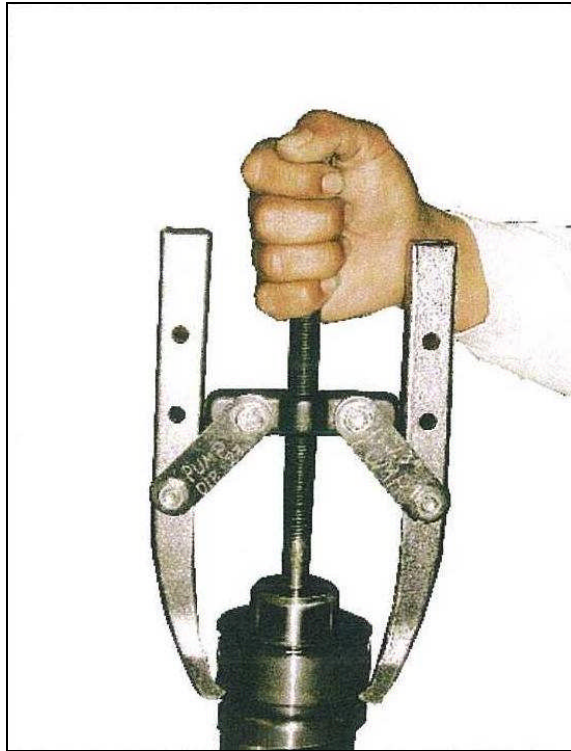

Fig. 9 Removal of the Crankshaft bearing
Depending on the condition, either replace or clean and reuse valves and springs. A set of 10 valve and 10 springs is available as PN 70-1057. Apply a light coat of silicon grease (PN 21-1122) to the valve plug o-ring (43). Apply anti-seize lubricant (PN 85-0094) to the valve plug threads. Assemble the valves, springs and plugs as shown in Fig. 9, and tighten the valve plugs back into the manifold.
Pull off the Bearing (12) on the Crankshaft (11) with a bearing puller (fig. 9).